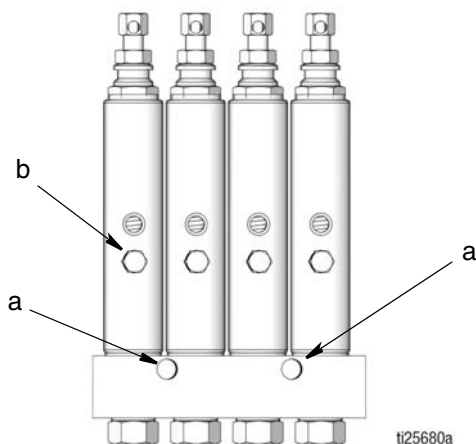

FIG. 1
Reference letters used in the following instructions, refer to FIG. 1.
3. Install injectors on a flat, hard surface using holes (a) (FIG. 1) in manifold.